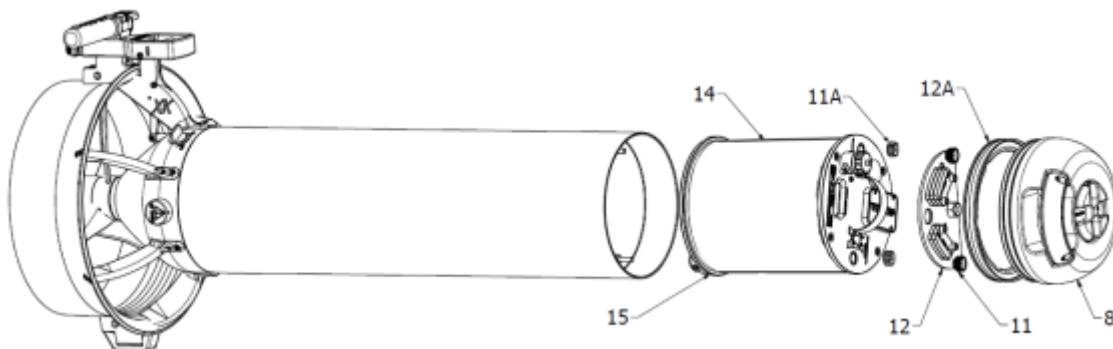
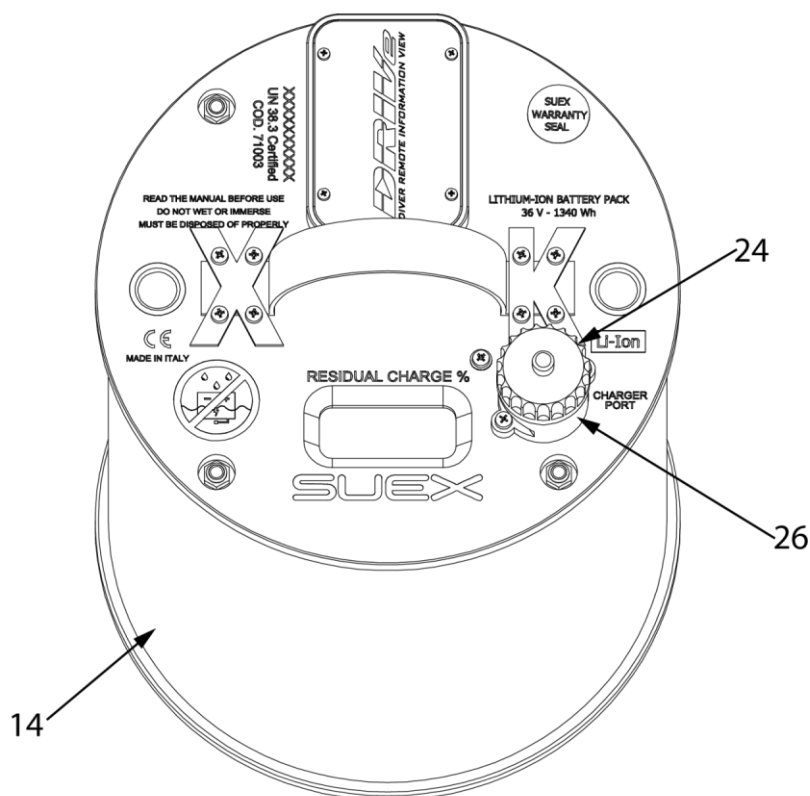

Fig.3 - Extracting the battery
Fig.4 - Battery charging
The battery should be recharged **ONLY** through the **CONNECTOR (26 - Fig.4)**, **FORBIDDEN** recharge the battery when it is connected to the engine: there are **RISK OF SERIOUS DAMAGE or DEATH**.
To recharge the battery, remove the battery (14) from the Scooter (Fig. 3), put it in a safe place away from people and flammable objects, unscrew the cap of the charging connector (24 - Fig. 4), connect the socket battery charger power supply to the mains and connect the charging connector (26) to the battery charger (see Battery charger user manual). At the end of charging, disconnect the battery charger and screw the cap (24) of the connector (26) back on. Insert the battery into the scooter only if you intend to use it.